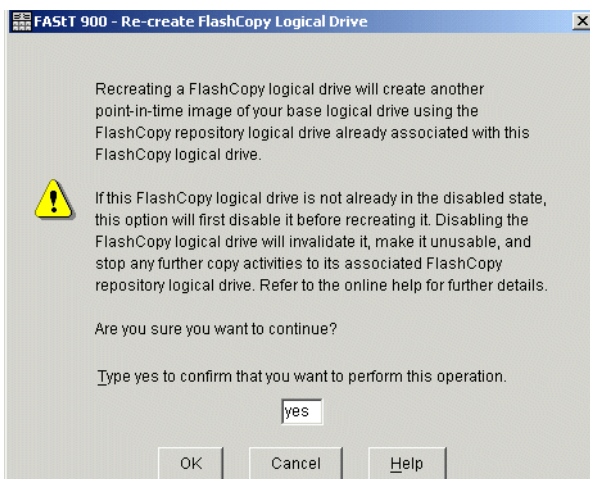

Figure 7-40 Re-creating a FlashCopy Logical Drive - Confirmation
2. The Re-create FlashCopy Logical Drive dialog opens (Figure 7-40). Type Yes and click **OK**.